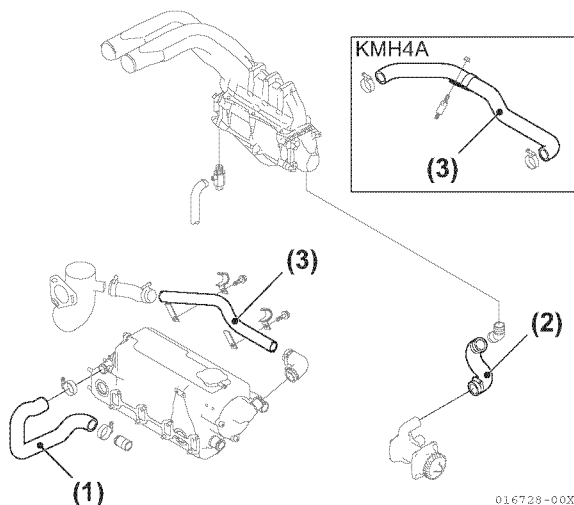

Figure 7-19
3. Disconnect seawater pipe between intercooler water box A and seawater pump (Figure 7-19, (1)).
4. Disconnect cooling seawater pipe between intercooler water box B and cooling freshwater cooler (Figure 7-19, (2)).
5. Disconnect clamp bolt of pipe between mixing elbow and cooling freshwater or marine gear cooler (Figure 7-19, (3)).